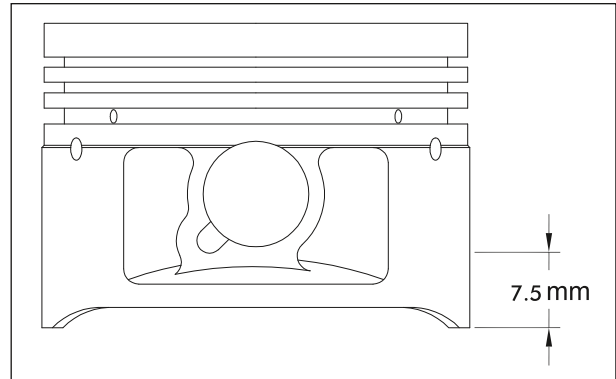

Fig. 3.97
- Measure the piston diameter using micrometer at right angles to the piston pin and at a point which is 7.5 mm from the skirt end. (Fig. 3.97)